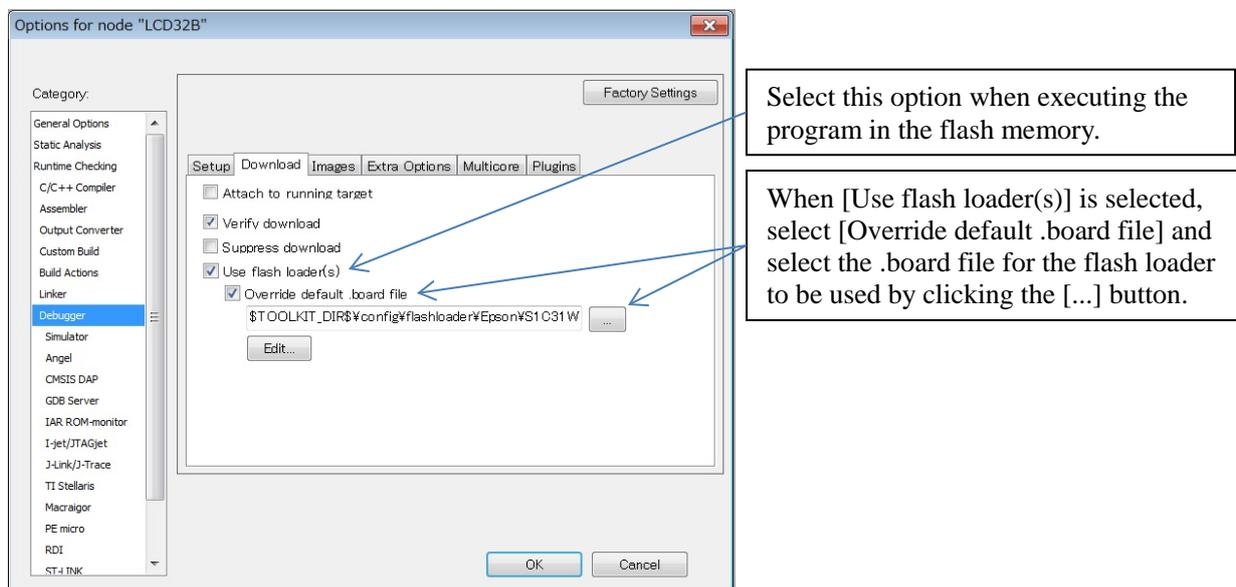

Figure 2.3.5.1 Flash Loader Setting
- (1) Select the [Project] > [Option] in the IAR EWARM menu.
- (2) Select the [Debugger] in the [Category] list on the [Options for node “{project}”] dialog (Figure 2.3.5.1).
- (3) Select the [Download] tab (Figure 2.3.5.1).
- (4) Disable the [Use flash loader(s)] checkbox (Figure 2.3.5.1).
- (4) Enable the [Use flash loader(s)] checkbox (Figure 2.3.5.1).
- (5) Enable the [Override default .board file] checkbox (Figure 2.3.5.1).
- (6) Click the [...] button and select “S1C31D01\_int.board” as a board file (Figure 2.3.5.1).